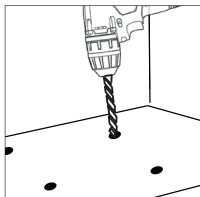

Figure 3
6. Using a 1/2 inch (12mm) drill bit, drill a hole at each of the 2 marks approximately 3 inches in depth then remove any excess dust (Figure 3).
If mounting to a wood surface, you will drill the 2 marks you made using a 11/32 inch (10mm) drill bit instead to make 2 pilot holes and the inserts will **not** be used (Figure 3).